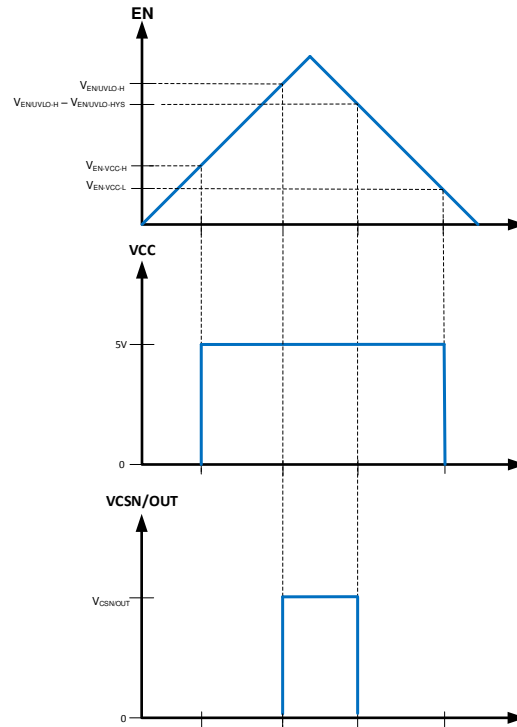

图 10-2. Precision Enable Behavior
The following operating description of the TPS2583xA-Q1 will refer to the Figure 10-2 and to the waveforms in Figure 10-1. TPS2583xA-Q1 is a step-down synchronous buck regulator with integrated high-side (HS) and low-side (LS) switches (synchronous rectifier). The TPS2583xA-Q1 supplies a regulated output voltage by turning on the HS and LS NMOS switches with controlled duty cycle. During high-side switch ON time, the SW pin voltage swings up to approximately  $V_{IN}$ , and the inductor current  $i_L$  increase with linear slope  $(V_{IN} - V_{OUT}) / L$ . When the HS switch is turned off by the control logic, the LS switch is turned on after an anti-shoot-through dead time. Inductor current discharges through the LS switch with a slope of  $-V_{OUT} / L$ . The control parameter of a buck converter is defined as Duty Cycle  $D = t_{ON} / T_{SW}$ , where  $t_{ON}$  is the high-side switch ON time and  $T_{SW}$  is the switching period. The regulator control loop maintains a constant output voltage by adjusting the duty cycle  $D$ . In an ideal buck converter, where losses are ignored,  $D$  is proportional to the output voltage and inversely proportional to the input voltage:  $D = V_{OUT} / V_{IN}$ .